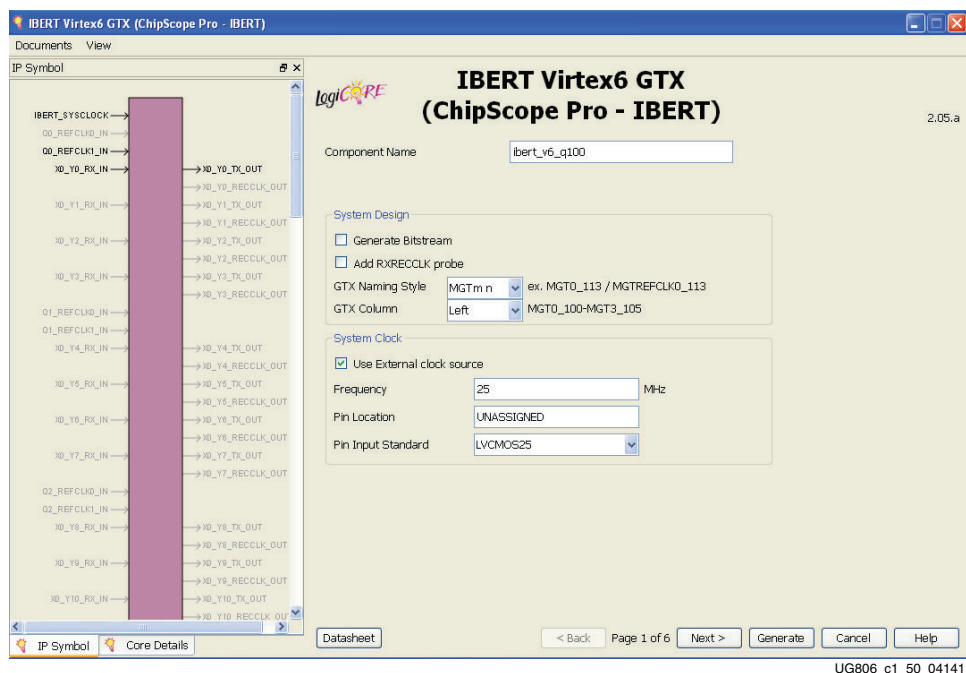

Figure 1-50: CORE Generator - IBERT GTX Customization - Page 1
9. After a few seconds page 1 of the IP customization window will appear. Enter the information shown here and in Figure 1-50, then click Next: